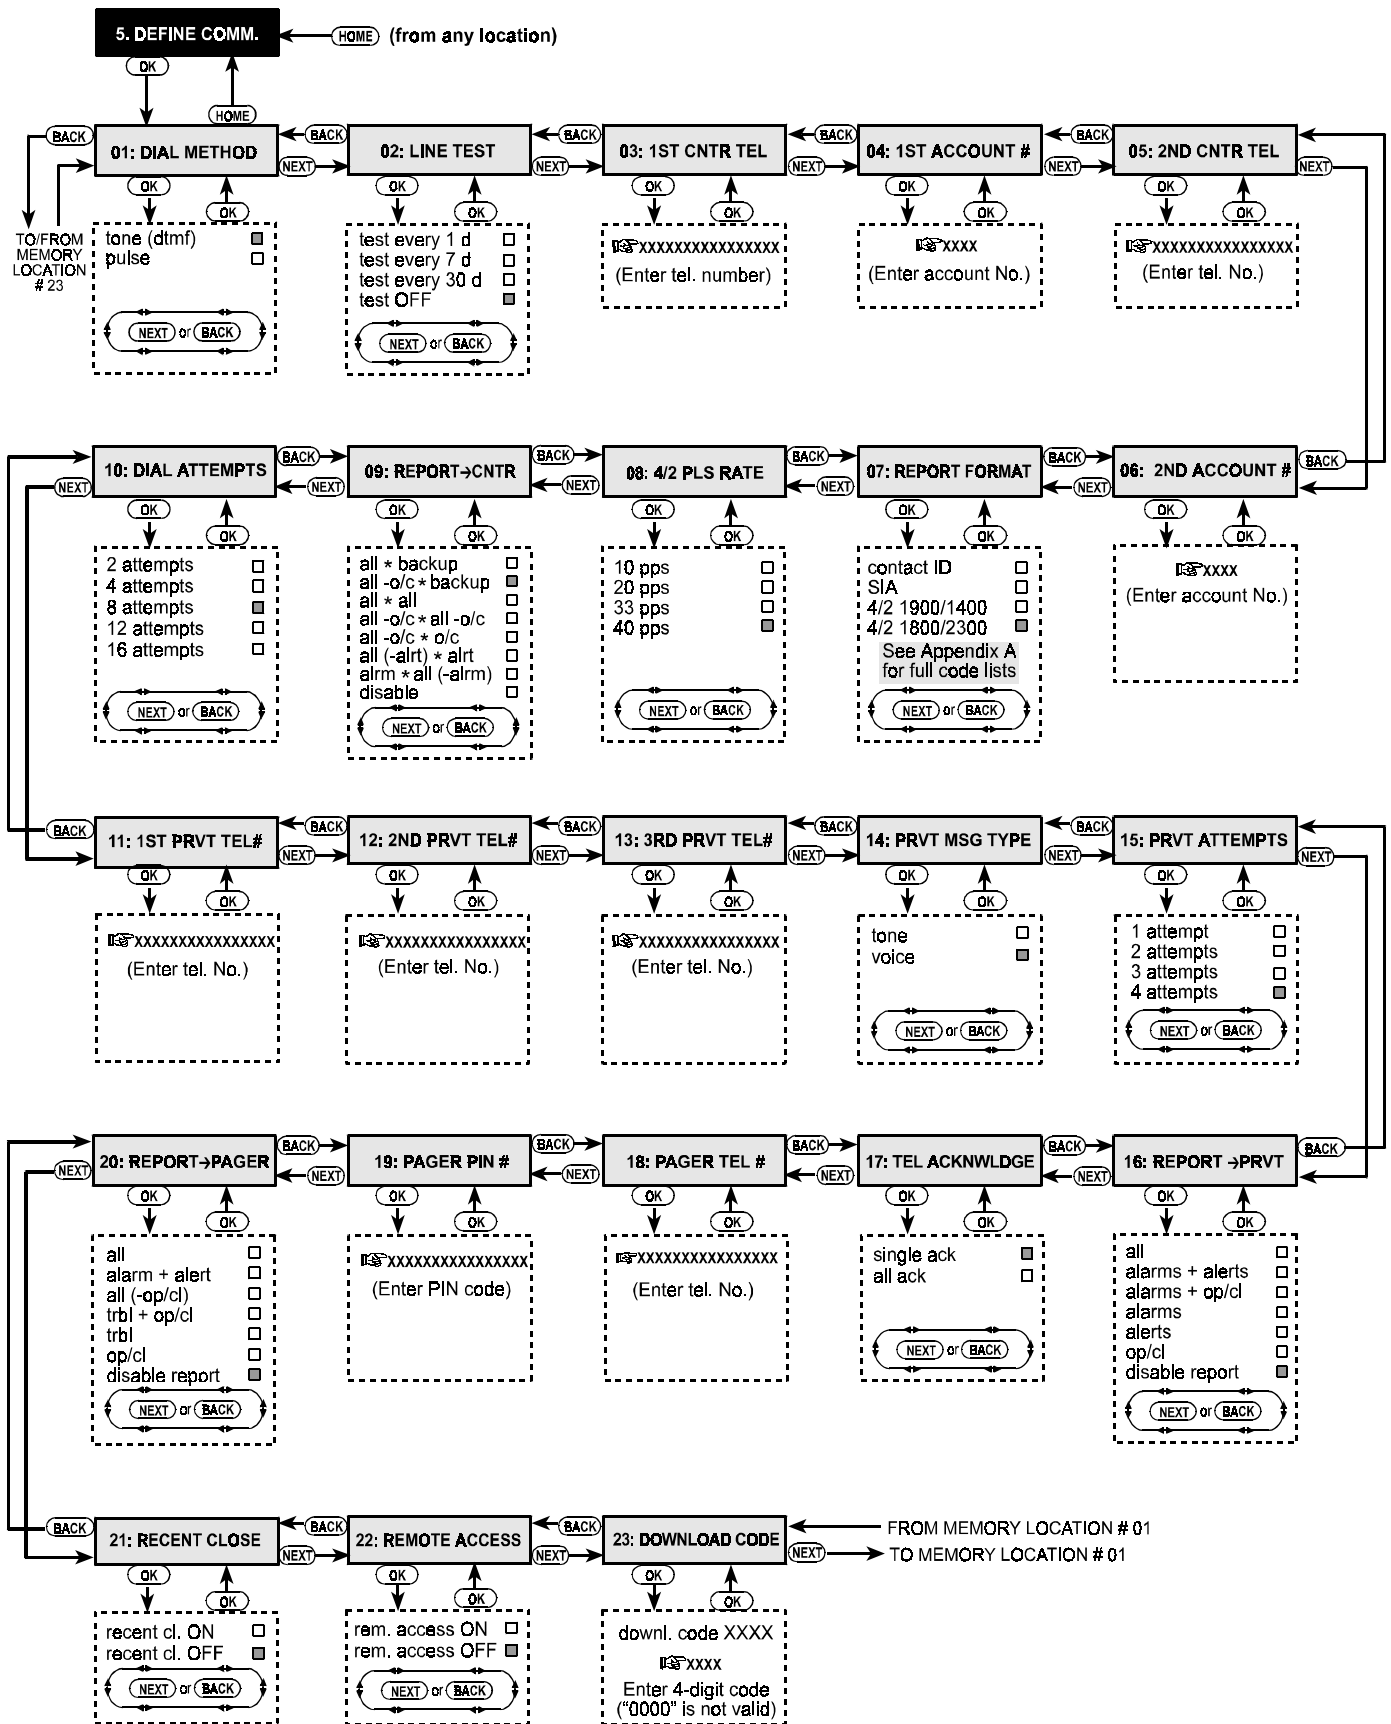

Figure 5. DEFINE COMM Flow Chart
**Should you wish to get an overall view of the entire process, refer to the programming chart in Figure 5. You may even use the chart as your only guide along the programming process, instead of going through the written step-by-step procedure.**